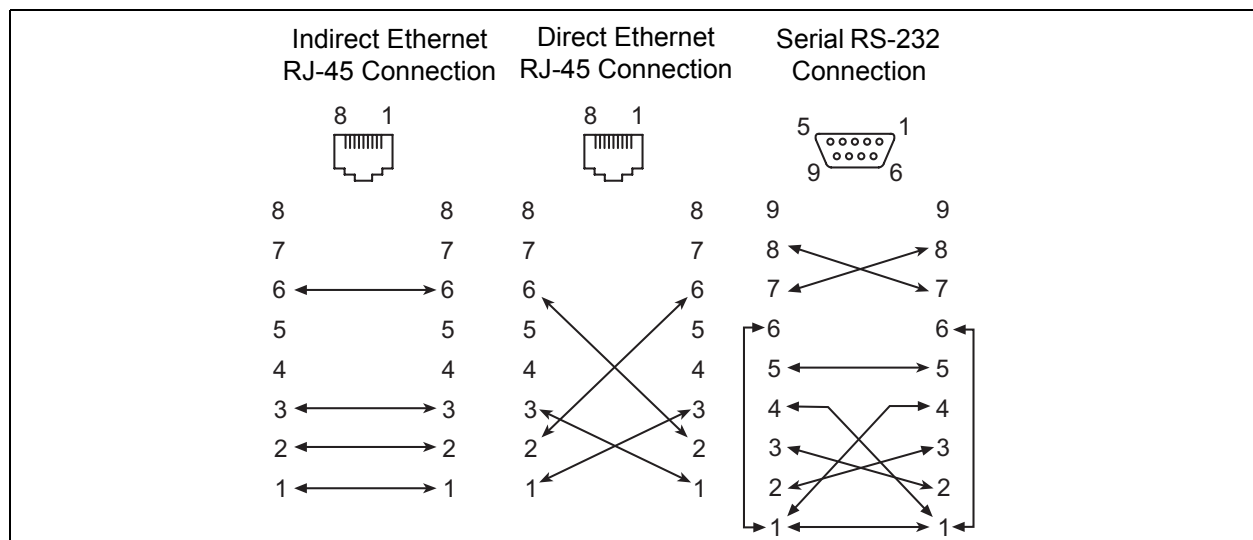

Figure 4-3. Ethernet and Serial Cable Connections
- Indirect Ethernet connection from the management workstation to the switch RJ-45 Ethernet connector through an Ethernet switch or a hub. This requires a 10/100 Base-T straight cable as shown in Figure 4-3. With this method, you can manage the switch with SANbox Manager or the CLI.
- Direct Ethernet connection from the management workstation to the switch RJ-45 Ethernet connector. This requires a 10/100 Base-T cross-over cable as shown in Figure 4-3. With this method, you can manage the switch with the SANbox Manager application or the CLI.
- Serial port connection from the management workstation to the switch RS-232 connector. This requires a null modem F/F DB9 cable as shown in Figure 4-3. With this method, you can manage the switch with the CLI.